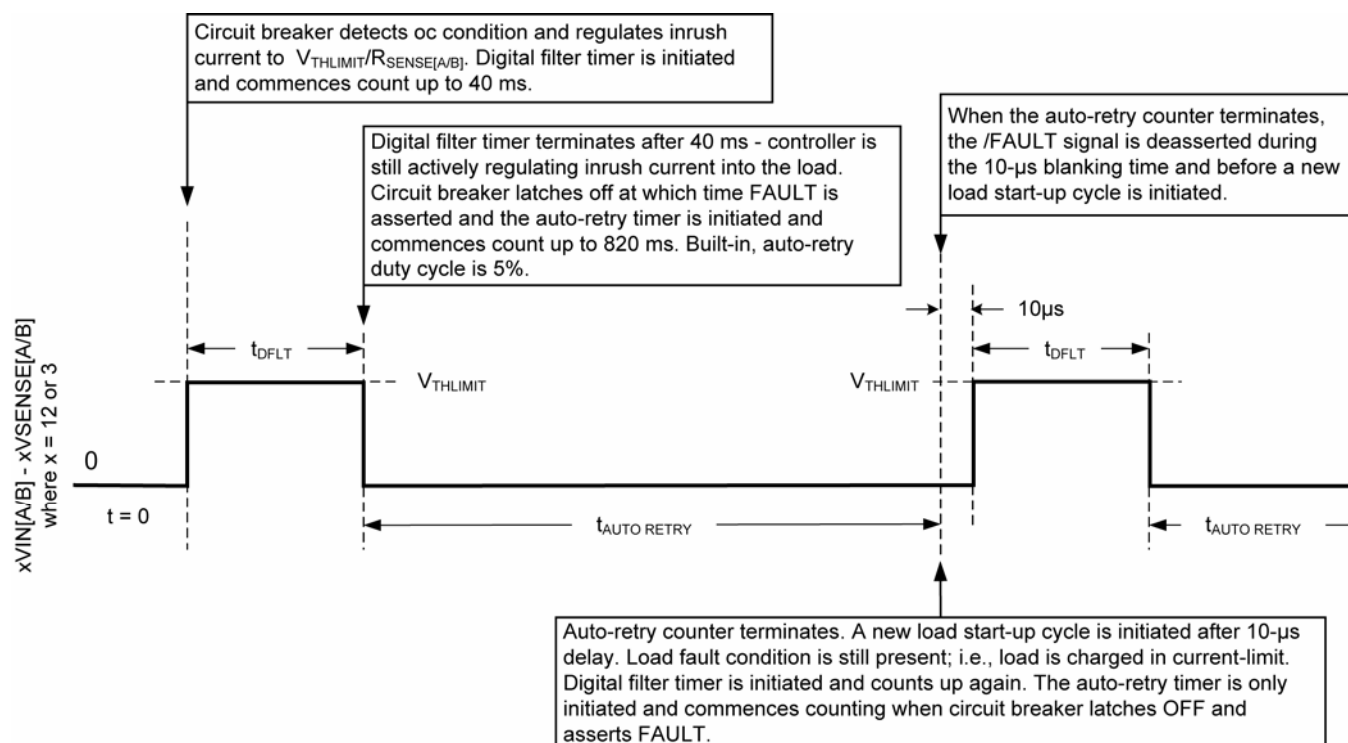

Figure 7. MIC2341R Auto-Retry Timing Diagram and Operation in Current-limit
In very cost-sensitive applications, the system design engineer can save the cost of the (2) external CFILTER[A/B] capacitors by using only the digital filter and/or the auto-retry delay counters. This mode is automatically invoked by connecting the MIC2341 or the MIC2341R's CFILTER[A/B] pins directly to AGND. In this configuration, the primary OC detectors' response time t_{FLT} is equal to t_{DFLT} (or 40ms as above) In Figure 7,